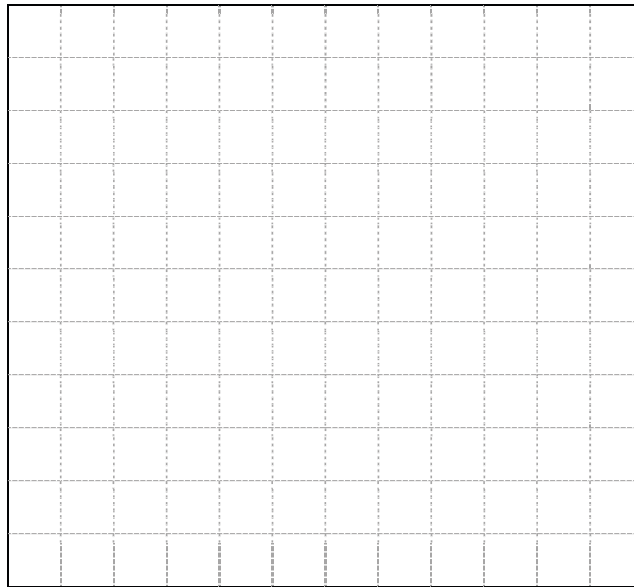

Figure 1-15. With and without torque boost characteristics.
- 29. Plot the curves with and without torque boost in Figure 1-15. Place the Frequency values along the X-axis, and the Output voltage values along the Y-axis.